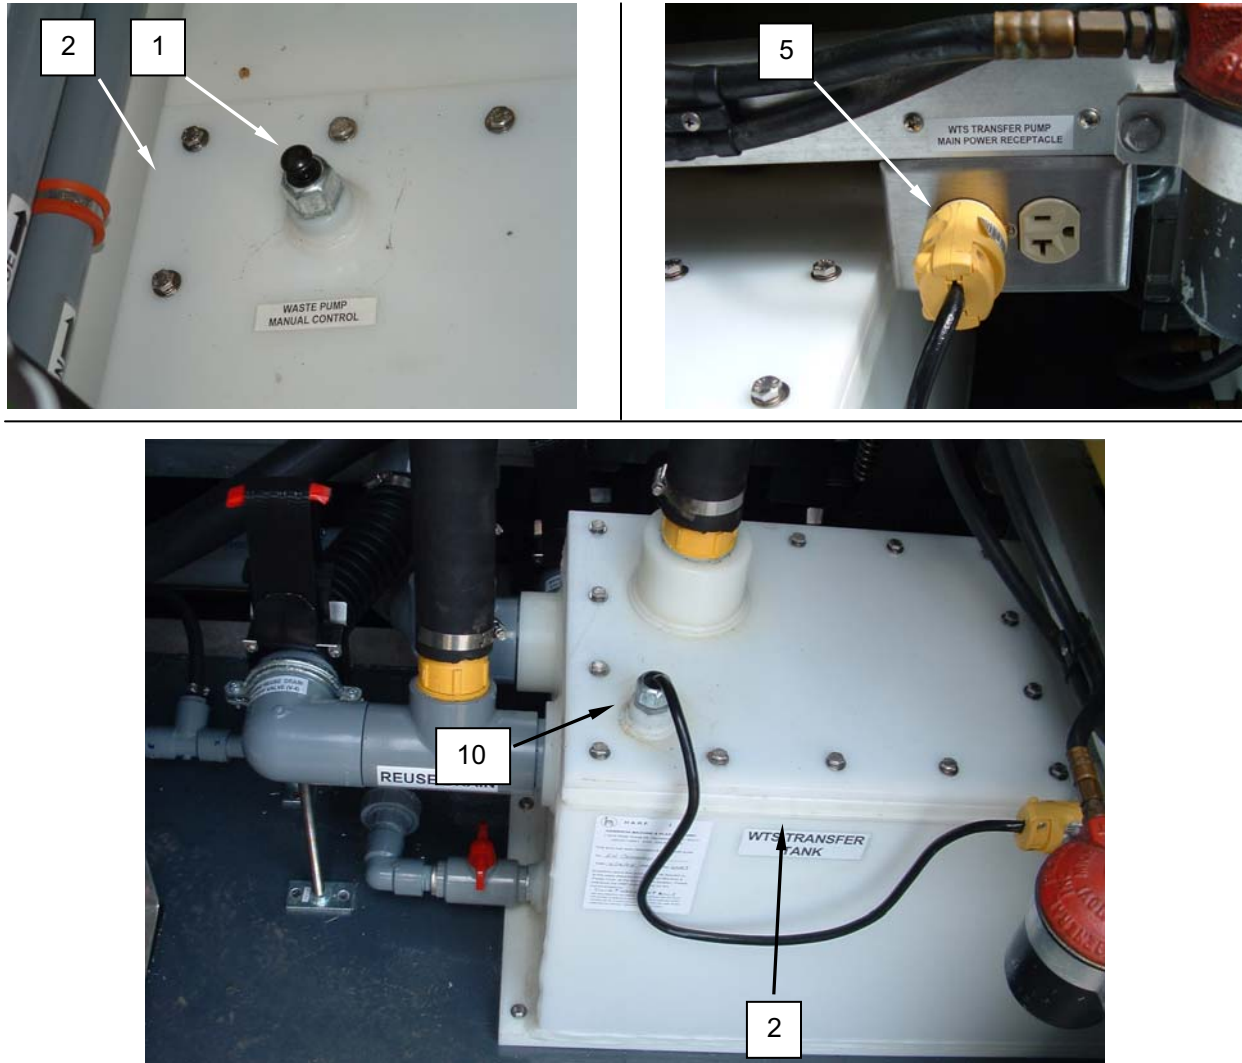

Figure 4. Replace the Drainage Tank Pump.
2. Remove manual lift knob (**Figure 4, Item 1**) (Waste Tank only).
3. Remove top (**Figure 4, Item 2**) of drainage tank.
8. Disassemble power cord plug (**Figure 4, Item 5**) and retain for installment on replacement pump power cord.
9. Loosen watertight strain relief (**Figure 4, Item 10**) in drainage tank top (**Figure 4, Item 2**).
10. Pull power cord plug (**Figure 4, Item 5**) through strain relief (**Figure 4, Item 10**).
15. Feed power cord through drain tank top strain relief (**Figure 4, Item 10**).
16. Strip insulation from end of power cord, and install plug (**Figure 4, Item 5**) onto replacement pump power cord.
17. Install top (**Figure 4, Item 2**) of drainage tank.
18. Install manual lift knob (**Figure 4, Item 1**) (Waste Tank only).